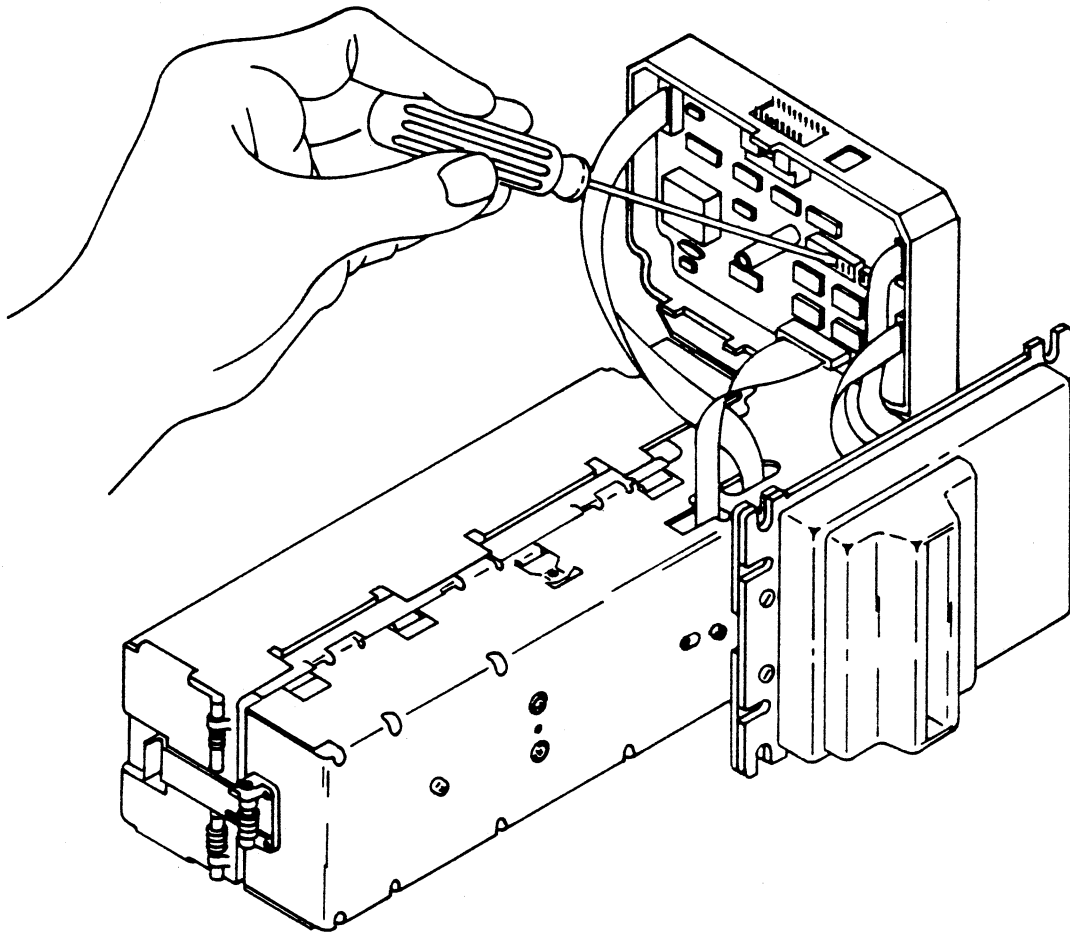

Figure 3. Setting The Option Switches
- Lift the control board/cover assembly as shown (Figure 3). Locate the option switches on the control board.